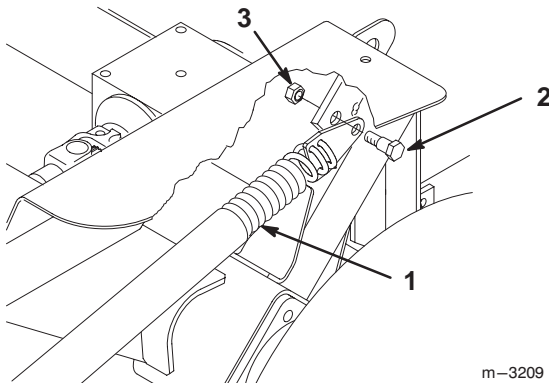

Figure 6
- Secure spring end plate assembly to traction unit with a shoulder bolt (3/8 x 7/8 in. (23 mm)) and locknut (3/8 in.) (Fig. 6).